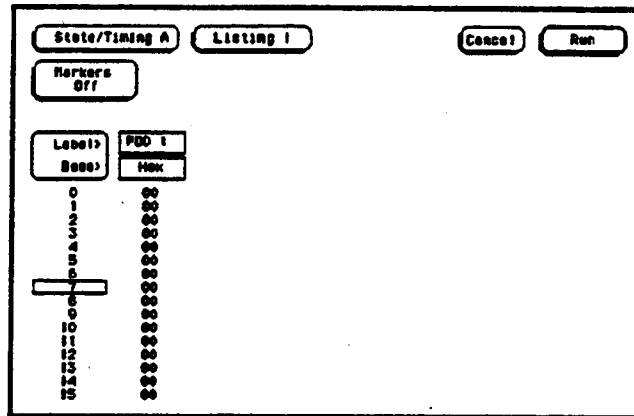

Figure 3-15. Listing Screen
- Touch Run. The State Listing screen will be displayed and should show all 0's for the channels under test. See figure 3-15.